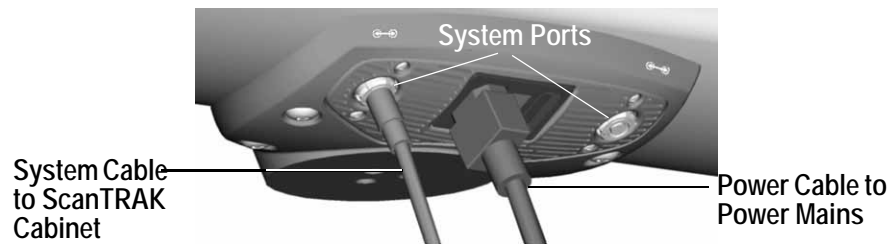

Figure 2-1 Optical Tracker Cables and Port Connections
2. If not already mounted to a stand or other fixture, place the Optical Tracker on a stable surface and connect cables as shown in Figure 2-1.